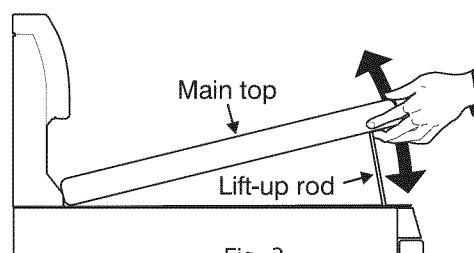

Fig. 2
1. Grasp the sides and lift from the front (See Fig. 2). Lift-up rods will support the top in a raised position. Only lift the top far enough to allow the support rods to snap into place.